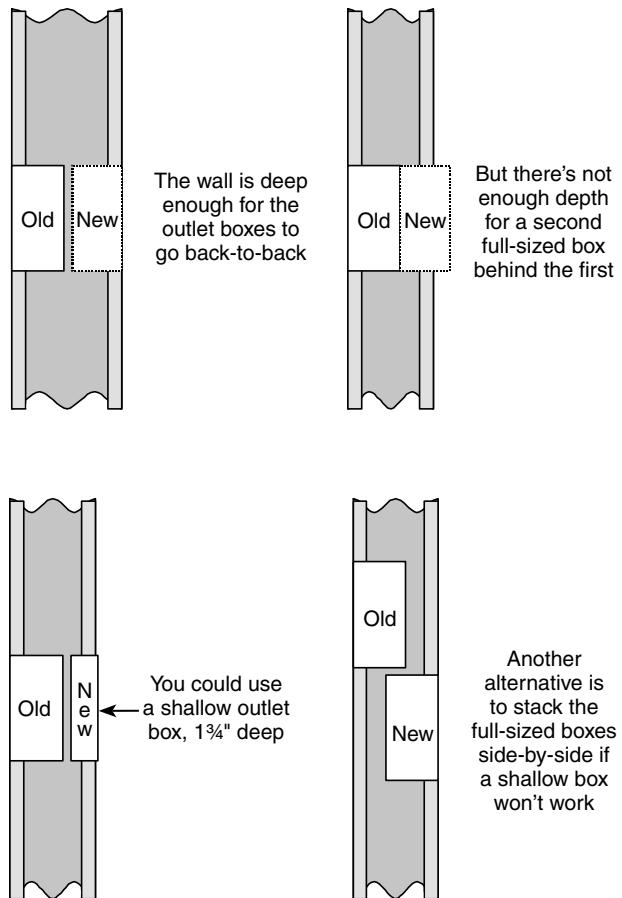

Figure 8-4
- Measure in the hole how far away the back of the outlet box is from the surface where you want the new outlet. Is it at least $2\frac{3}{4}$ inches? That's the depth of a standard outlet box. You can get shallower outlet boxes that are $1\frac{1}{4}$ inches deep for situations like this. If there isn't enough room for the outlet boxes back-to-back, you can put them off to the side a little; see Figure 8-4.